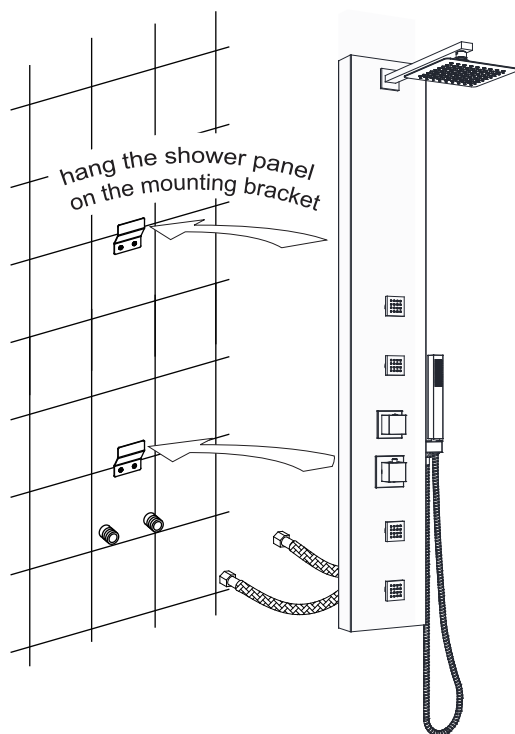
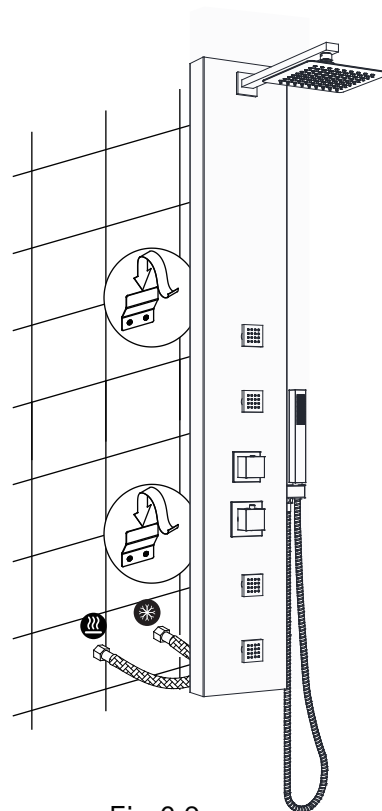

Fig 6.1
Fig 6.2
- 6-1** Connect the Hoses labeled with "Hot" or "Cold" to the outlets, then tighten the nuts of the hoses. **DO NOT OVER TIGHTEN!** (Fig 6.1)
- 6-2** Before hanging the shower panel onto the wall, turn on the faucet and test all water functions of the shower panel and check all connections for leaks. Retighten if necessary, but do not overtighten. (Fig 6.1)
- 6-3** Slide the shower panel down until it rests on the mounting brackets. Slightly pull down the shower panel to secure. (Fig 6.1, Fig 6.2)